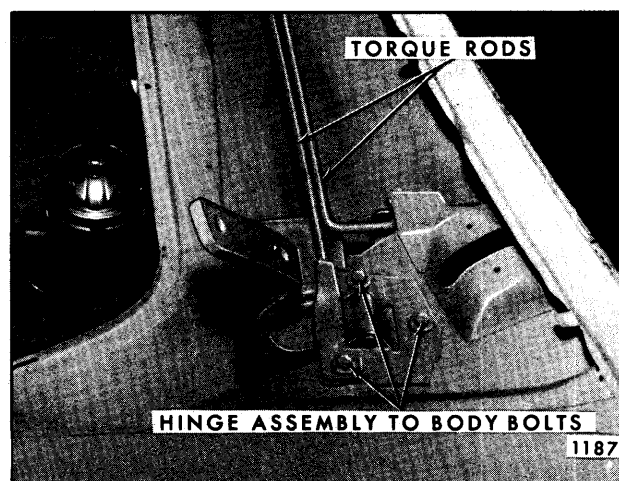

Fig. 5-15—Front Compartment Lid Hinge Removal
1. Adjustments to the front compartment lid may be made forward or rearward and side to side in body opening by loosening hinge to upper shroud attaching bolts at each hinge. Adjust hinge as required and secure bolts (See Fig. 5-15).